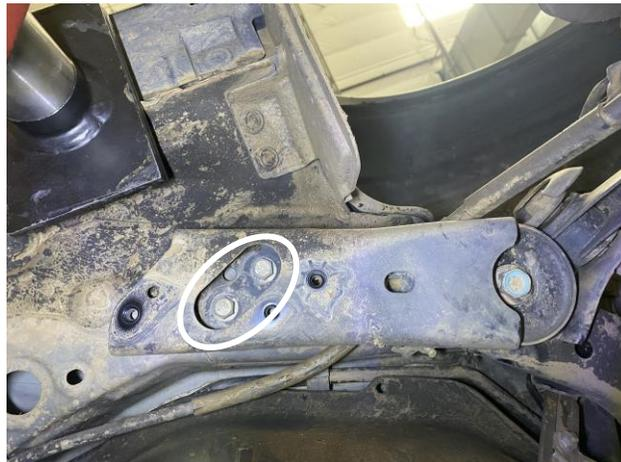

Figure 4.
- S. Remove the 2 OE cradle bracket bolts as shown below in Figure 4.